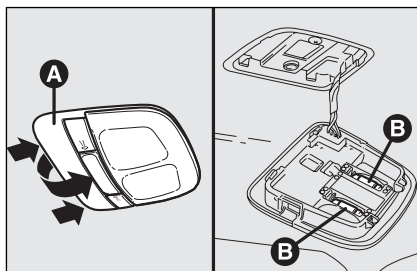

fig. 46
- ☐ remove the light unit **A**-fig. 46 levering in the points shown by the arrows (on retaining tabs);